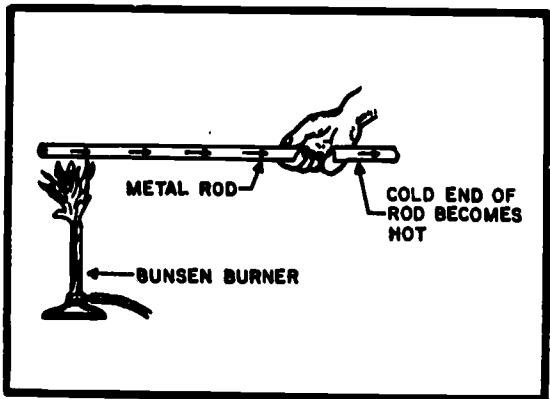

Fig 1-7. Heat transfer by conduction.
- CONDUCTION: This is the process of transferring heat from one part of a body to another part of the same body or between bodies that are touching, or in good contact with each other. Heat flowing along an iron bar, one end of which is held in a fire see figure 1-7, is a simple example of this process. Movement of heat continues until there is a temperature balance throughout the length of the bar. Conduction occurs when the conductor is in actual physical contact with the heat source and the point of delivery. Heat flows from the hot to the cold end of the bar by molecular activity.